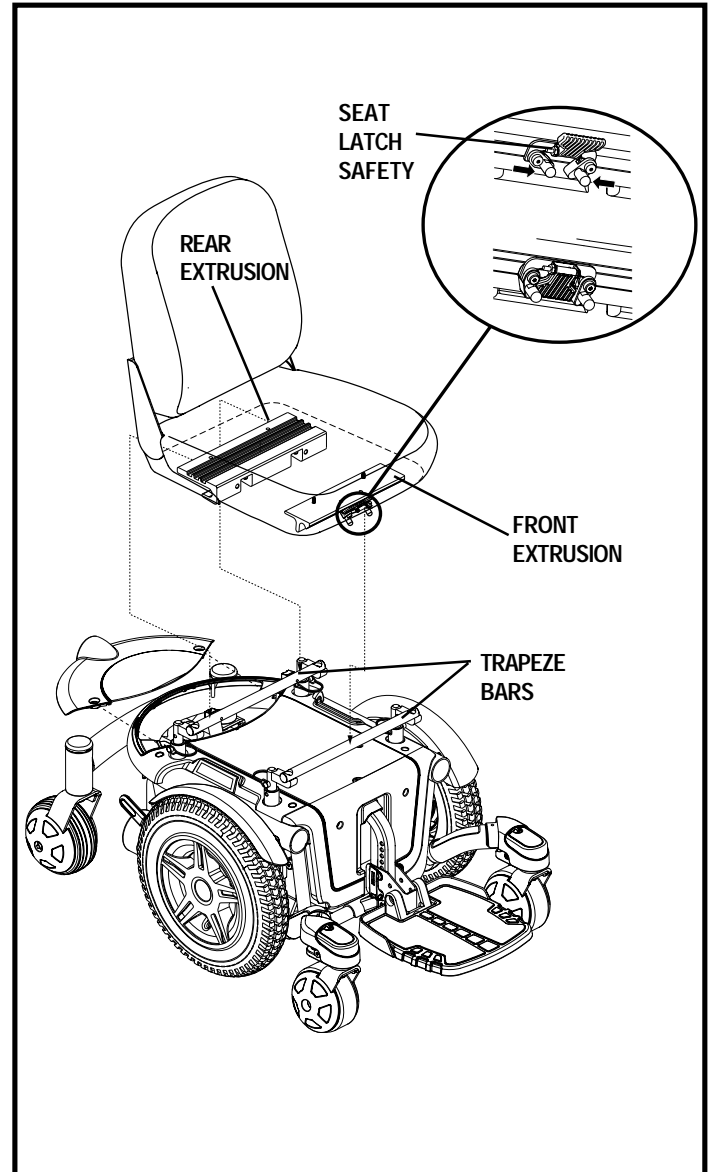

Figure 11. Universal Mounting System (Shown Without Armrests for Clarity)
It may be necessary to install the seat either prior to initial operation or after transporting your power chair. If your power chair is equipped with a Synergy, Tru-Balance or Specialty seating system, refer to the information provided in separate manuals. The medium- and high-back seats are attached to the power base with the Universal Mounting System (UMS). The UMS consists of universal parts that may be attached to the seat, regardless of seat width or seat depth. The two main components are aluminum extrusions mounted to the seat, regardless of seat width or seat depth. These extrusions attach to a pair of trapeze bars that are mounted to the power base. See figure 11.
2. Tilt the seat back and slide the rear extrusion onto the rear trapeze bar. See figure 11.
4. Flip up the seat latch safety. See figure 11.